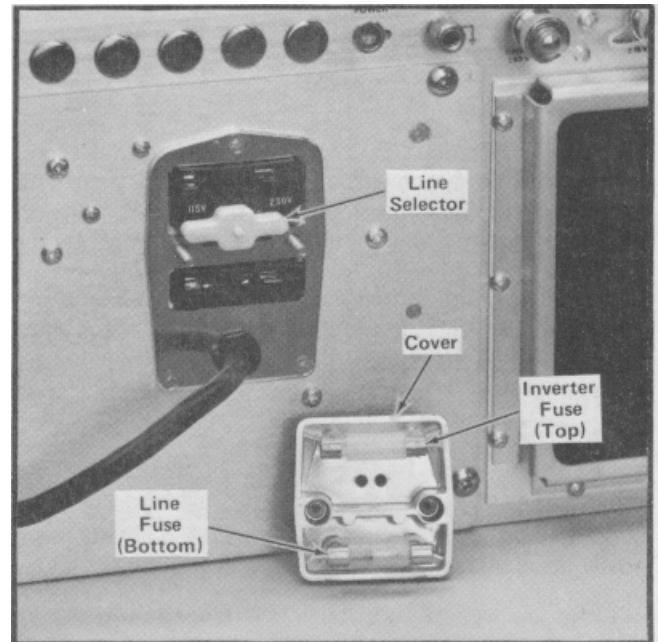

Fig. 2-1. Line Selector assembly on rear panel (shown with cover removed).
3. To convert from 115-volts to 230-volts nominal line voltage, or vice versa, pull out the Selector switch bar (see Fig. 2-1) and plug it back into the remaining holes. Change the line-cord power plug to match the power-source receptacle or use a 115 to 230-volt adapter.